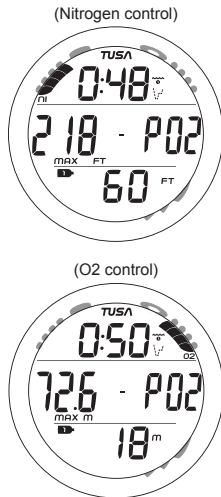

Fig. 59 - PLAN LEAD-IN
**Plan Depth/Time**, information includes (Fig. 59):